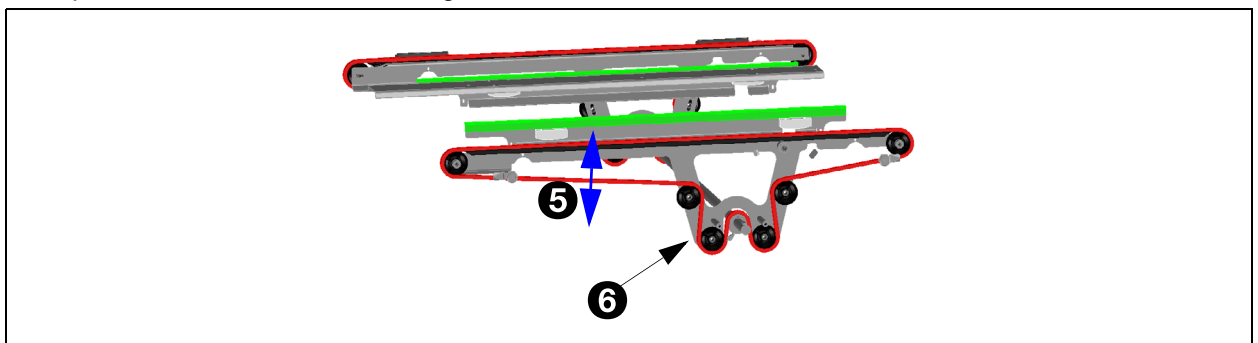

*Fig. 80 - Detail of chain-tensioner*
1. The total play (3) in the drive-chain may amount to a maximum of 2 mm. See fig. 80.
2. Adjust the play with the chain-tensioners (4).